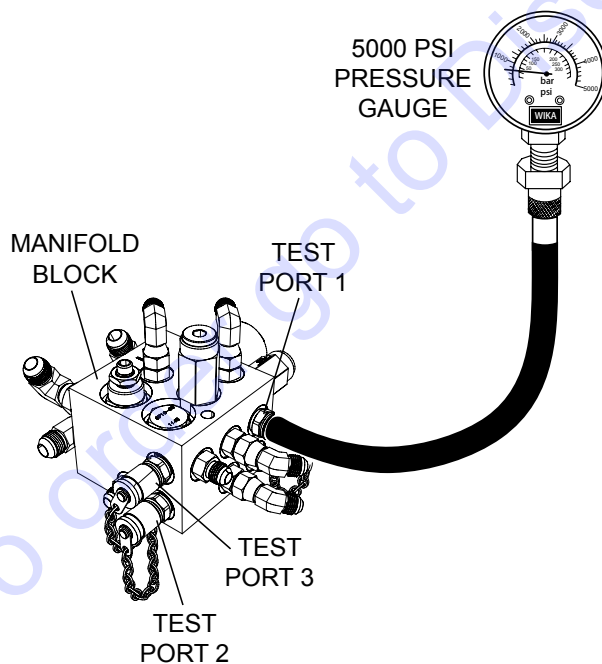

Figure 31. Manifold Test Ports
6. On the manifold block, install a 5,000 psi pressure gauge (Figure 31) to the forward pressure quick disconnect test port 2.
1. On the manifold block, install a 5,000 psi pressure gauge into quick disconnect test port 1 (Figure 31).